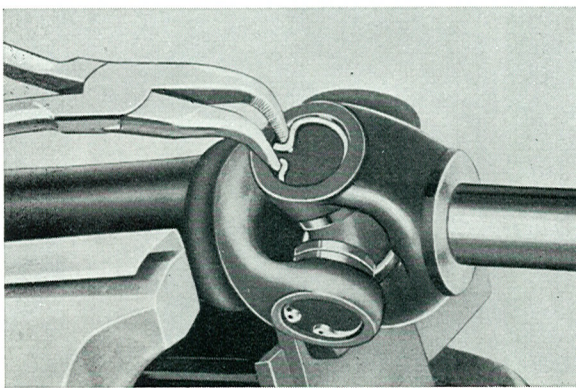

Fig. 4-72. Removing the snap ring
1. Remove the snap rings which secure the needle bearings in the yokes, see Fig. 4-72.